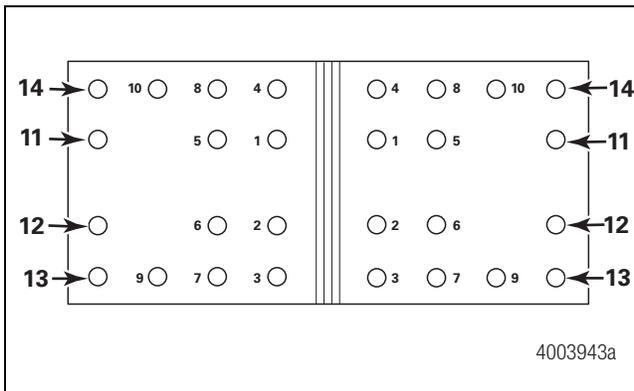

Figure 8.16
7. Install the rivets into the rivet holes following the sequence shown in Figure 8.16. For shoes with fewer rivet holes, start at the middle of the shoe and work toward the end. The rivets must be the correct body diameter, head size and shape, and length and material.